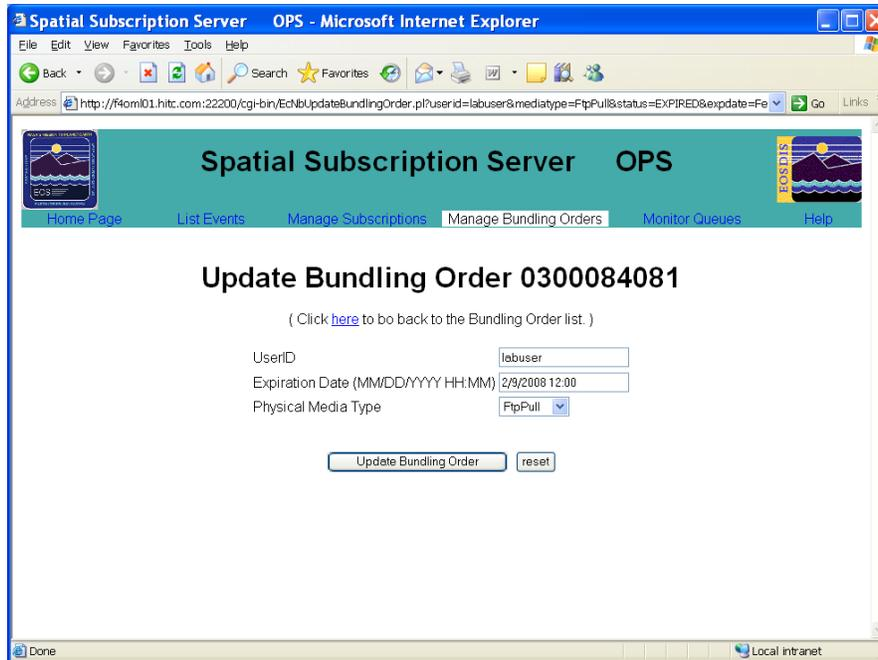

Figure 16.1-14. Update Bundling Order Page 1
- An **Update Bundling Order *x*** page (see Figure 16.1-14) is displayed.